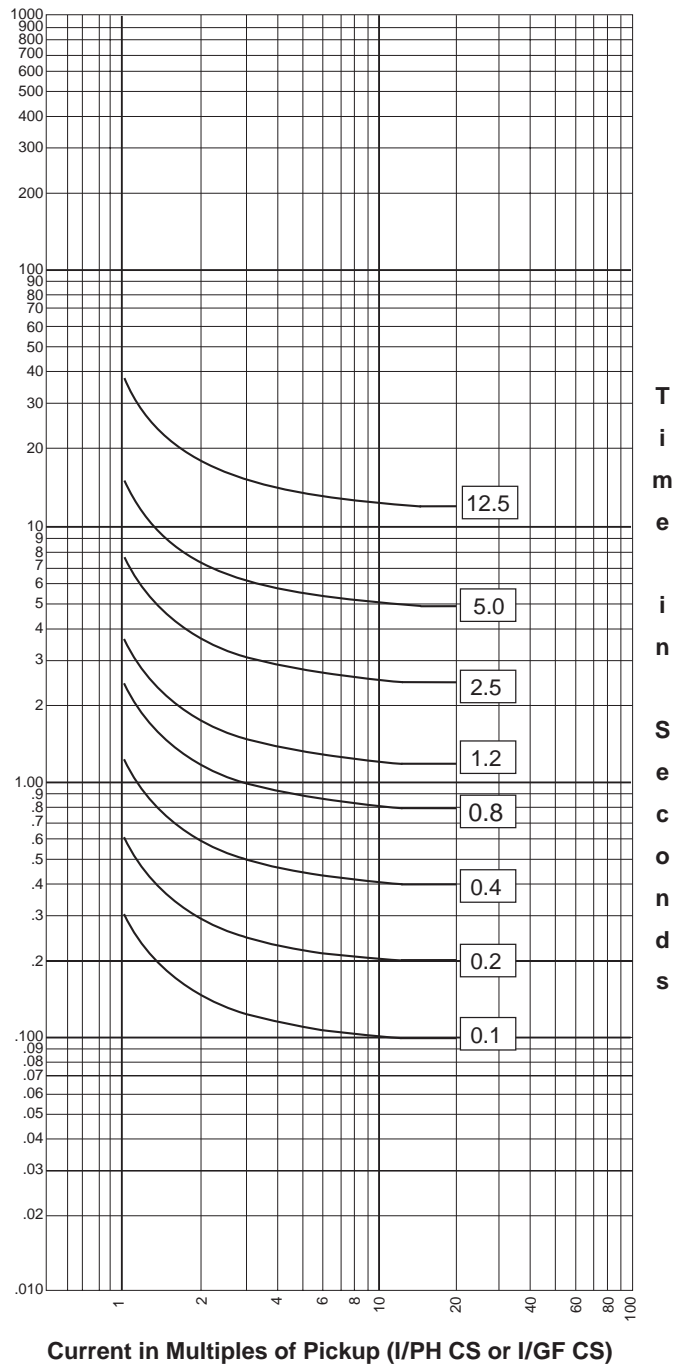

Figure 58: Rapid inverse (RI) curve
- RI: rapid inverse curve (figure 58, page 53)